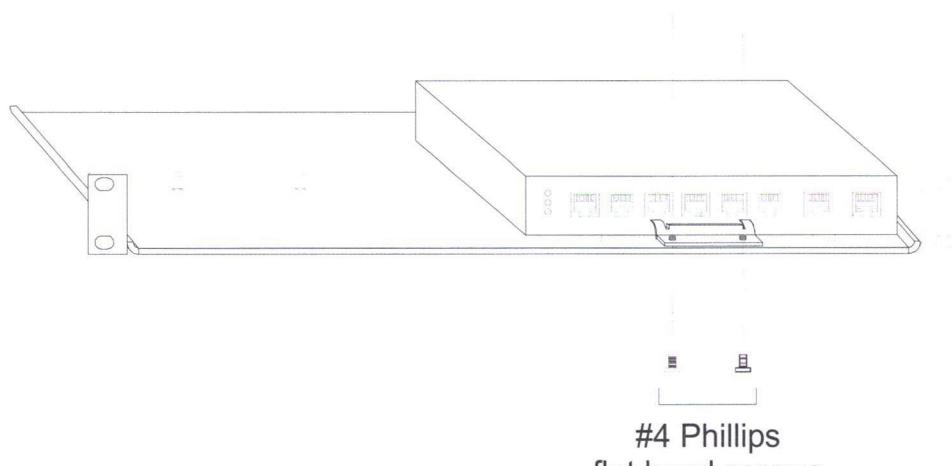

Figure 2-14: Screwing rackmount bracket onto rackmount shelf
6. Using a Phillips #0 screwdriver and the two #4 Phillips flat head screws that come with the bracket, screw the bracket to the shelf. See Figure 2-14, below, for an illustration of how to screw the bracket into the rackmount shelf.